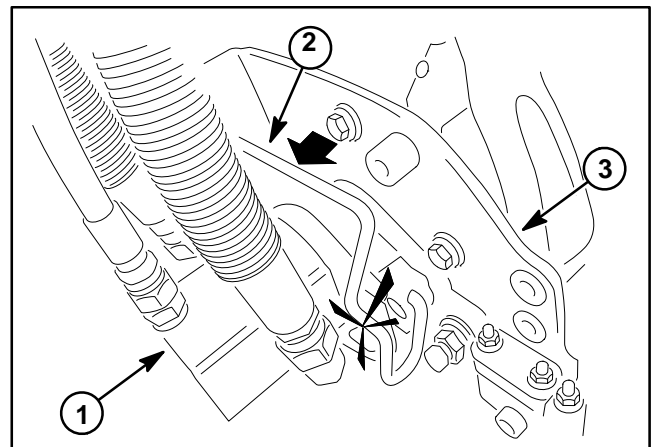

Figure 58
C. Pull motor clamp toward the motor until clamp fully engages slots on both sides of the motor mount (Fig. 58). There should be an audible click as clamp engages mount.